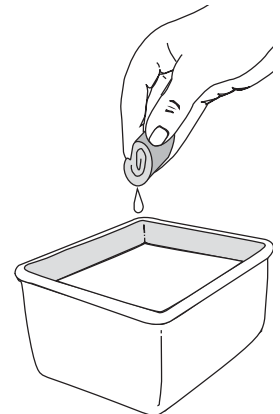

Fig. 19
- Wash the filter in detergent and water (Fig. 19). Rinse the filter thoroughly. Squeeze out excess water. Allow it to dry completely.